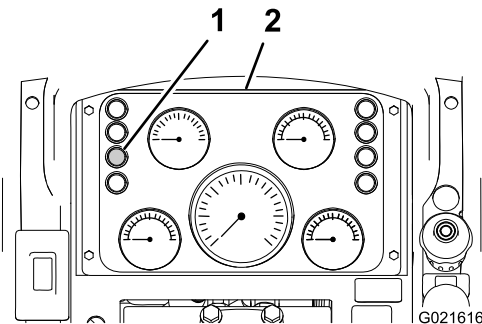

Figure 47
2. Check the restricted air-cleaner light on the instrument cluster (Figure 47).